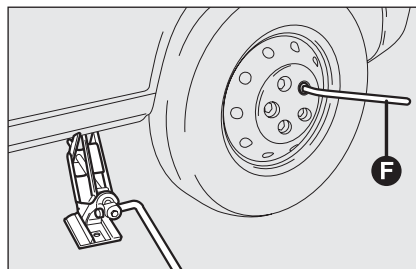

fig. 8
- ☐ loosen the bolts completely using the wrench **F-fig. 8** and remove the wheel;